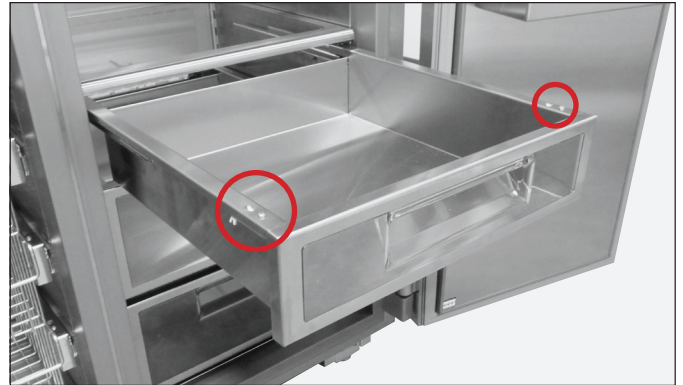

FIG. 5. Drawer slide screw locations..
2. Remove the drawer slide screws. See fig. 5.